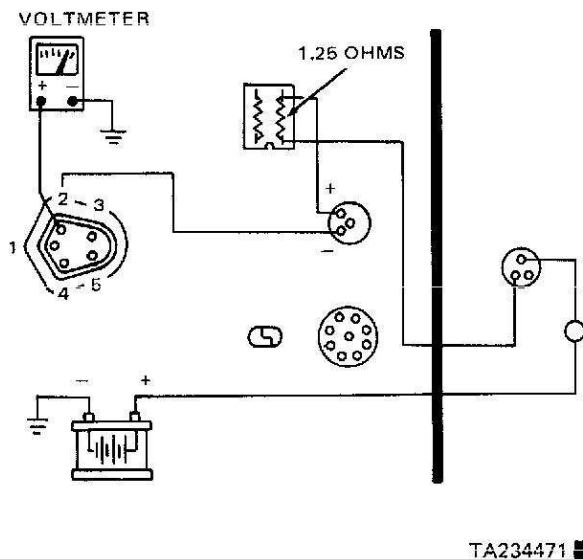

Figure 2-28. Testing Terminal Number Two.
(5) With the ignition switch ON, test for voltage between wiring-harness connector terminal two and ground (figure 2-28).